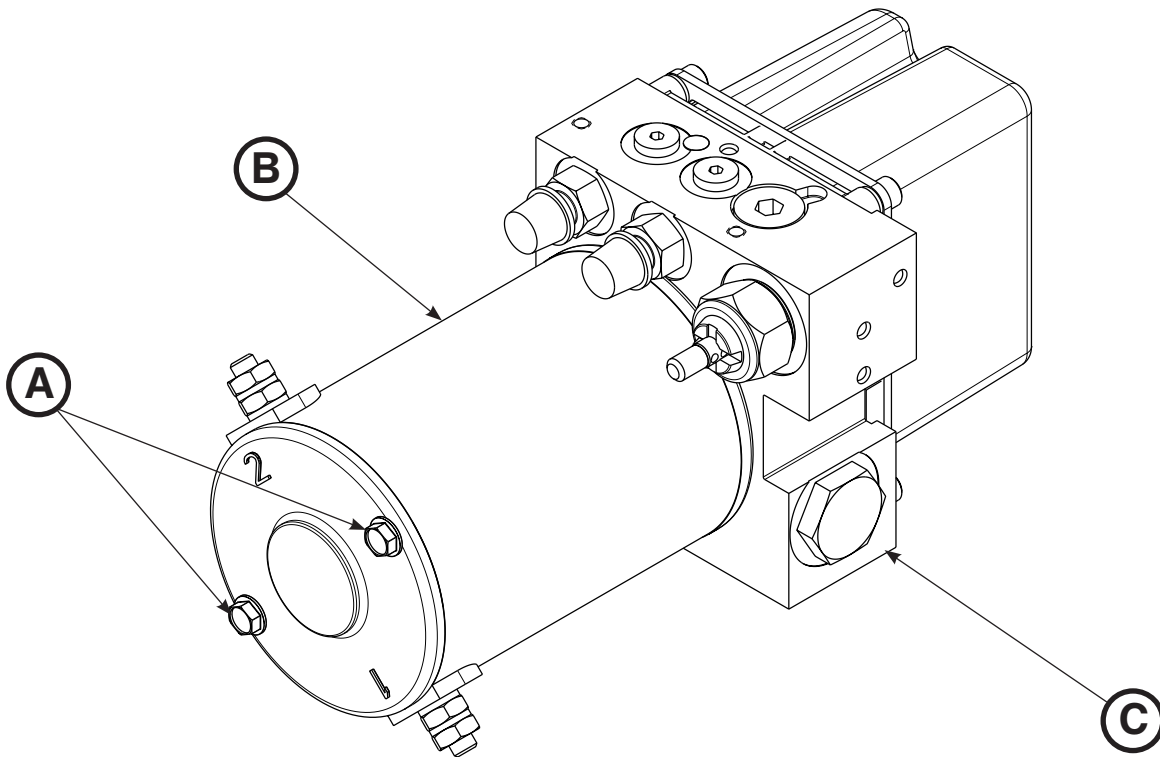

Figure 92
4. Using a 9/32" socket and 1/4" drive ratchet, remove the two bolts (A) that secure the motor (B) to the hydraulic manifold assembly (C) (Figure 92).